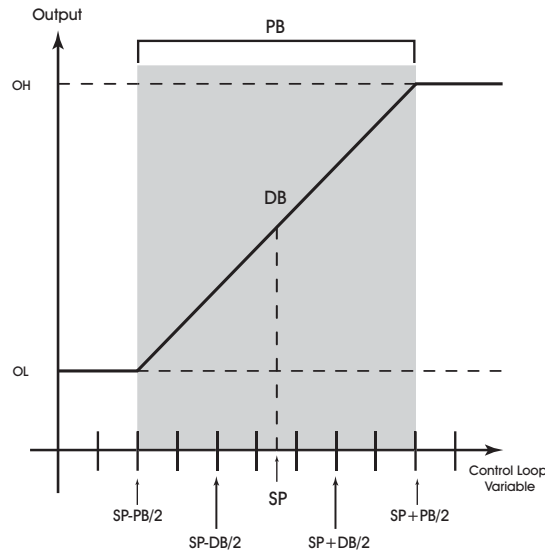
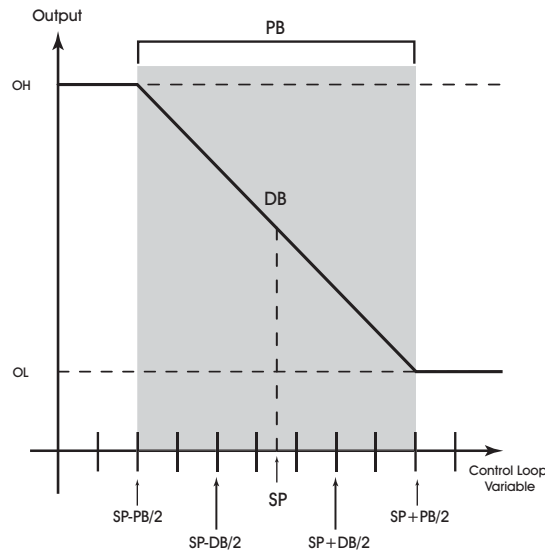

Figure 3-15: Proportional Band for Normal Acting Control ($SG = 0$)
Figure 3-16: Proportional Band for Reverse Acting Control ($SG = 1$)
To determine **PB**, first decide how closely the *NB-GPC1* must control the output to the setpoint. For instance, if the setpoint is 72°F, then an acceptable control range might be within two degrees of the setpoint. This control range can be expressed as a band centered on the setpoint: from 70° to 74°, or 4 degrees—the *proportional band (PB)*. Refer to Figure 3-15 and Figure 3-16.
For normal acting control loops (see Figure 3-15), the **(PO) Percent Output** property is set to maximum output when the input variable equals the setpoint plus half of the proportional band ($CS + PB/2$). The percent output is set to minimum output when the input variable equals the setpoint minus half of the proportional band ($CS - PB/2$). These associations are reversed for reverse acting control loops. **PO** will be midway between minimum and maximum output when the measured variable is equal to the control setpoint **CS**. The opposite would be true for reverse acting control loop as shown in Figure 3-16.